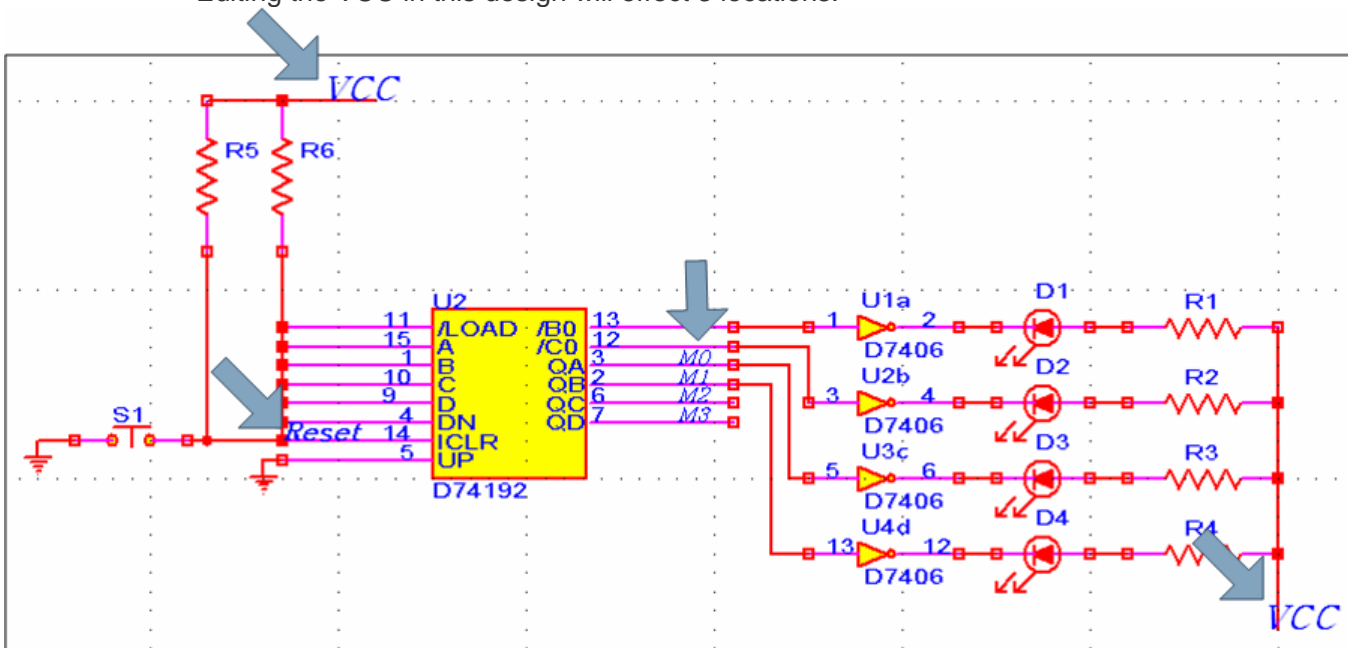

Figure 10: Entering Net Names
4. In the project, you need to enter **VCC** and **Reset** in the locations similar to *Figure 10*. Editing the VCC in this design will effect 3 locations.